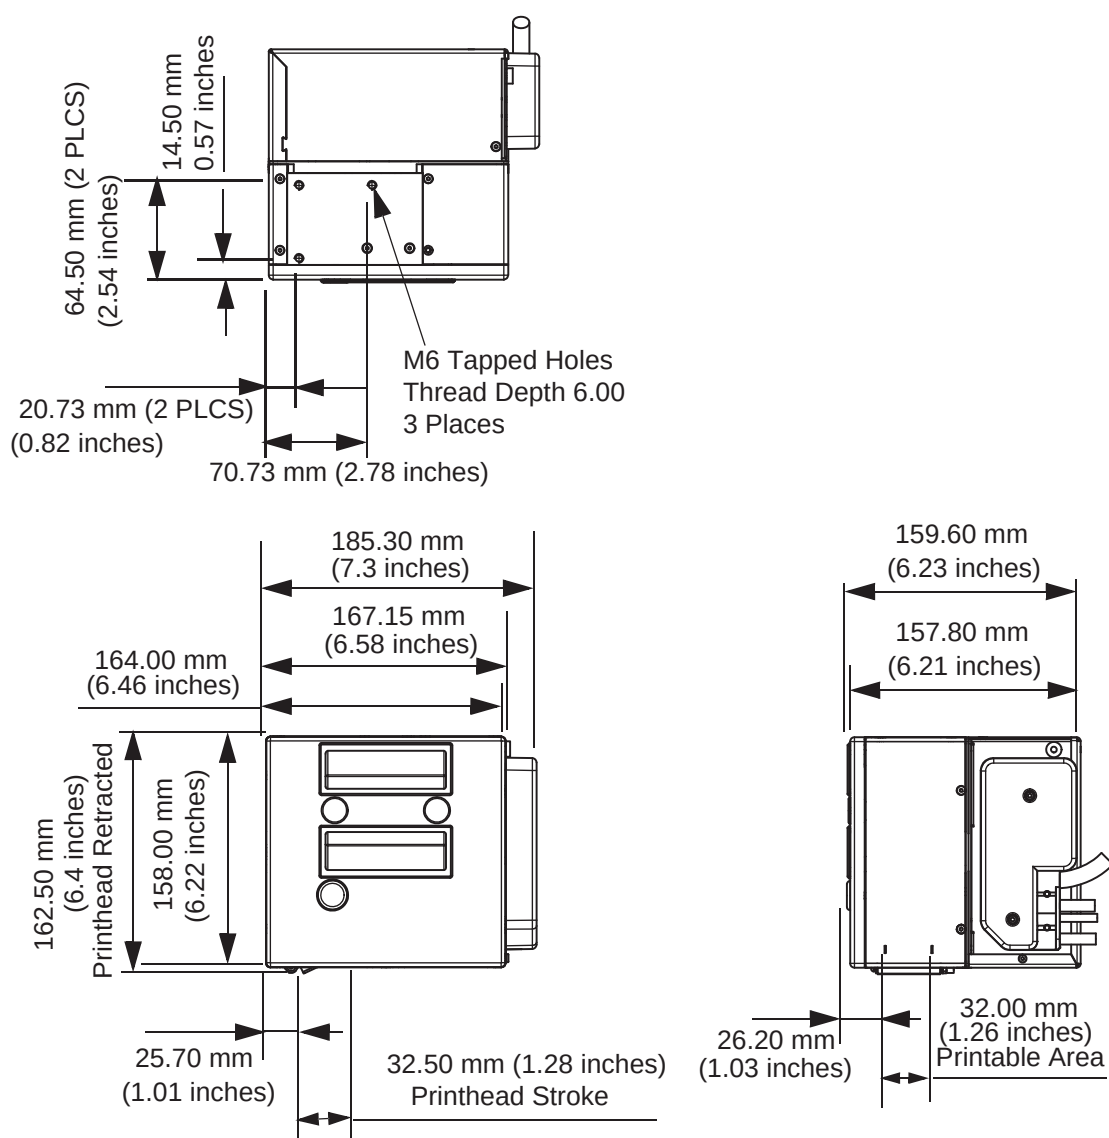

Figure 9-1: Videojet 6210 30 mm RH Printer Dimensions
Figure 9-1 shows the dimensions of the Videojet 6210 (RH) printer.